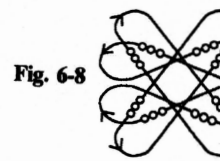

Fig. 6-8
8. Genji-uchi (8-ridge solid round braid) (Fig. 6-8)